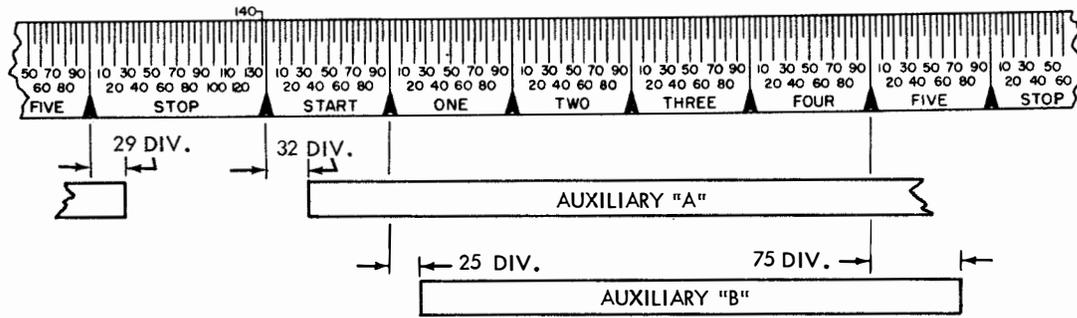

Figure 3 - Pulse Length Requirements for Auxiliary Contacts A and B
(1) Align the end of the stop pulse image with the 142 mark on the stop segment of the test-set scale.
(2) The distributor auxiliary contact A shall close at 32 \pm 15 divisions in the start pulse segment of the test-set scale and open at 29 \pm 15 divisions in the stop pulse segment of the test-set scale. (See Figure 3.)
(3) The distributor auxiliary contact B shall close at 25 \pm 15 divisions in the No. 1 pulse segment of the test-set scale and open at 75 \pm 15 divisions in the No. 5 pulse segment of the test-set scale. (See Figure 3.)